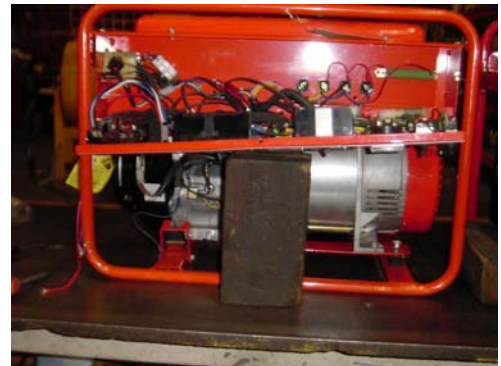

Figure 8. Control Panel Support Block
3. After the six front panel bolts have been removed, pull the control panel forward and tilt downward. To support the control panel, place a wood block underneath as shown in Figure 8.